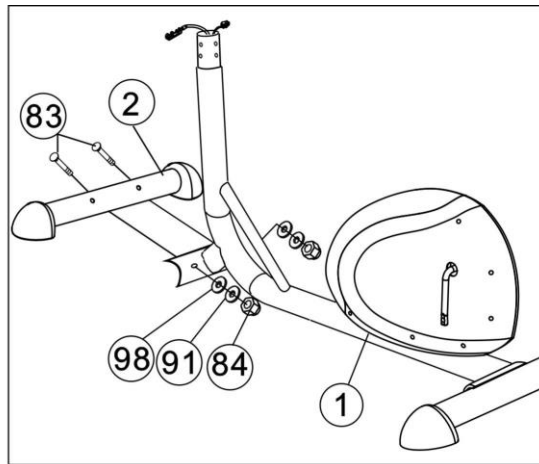

Figure 2
Attach the Front stabilizer (2) to the Main Frame (1) with two sets of M10×70 Bolts (83), Φ10 spring washers (98), Φ10 Flat washers (91) and M10 nuts (84). (Ref. figure 2)